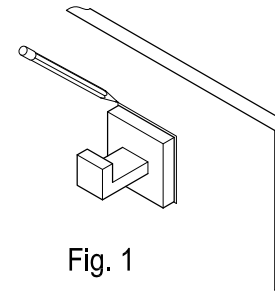

Fig. 1
- Step 2. Place a base onto the wall and trace around it with a pencil (fig 1).